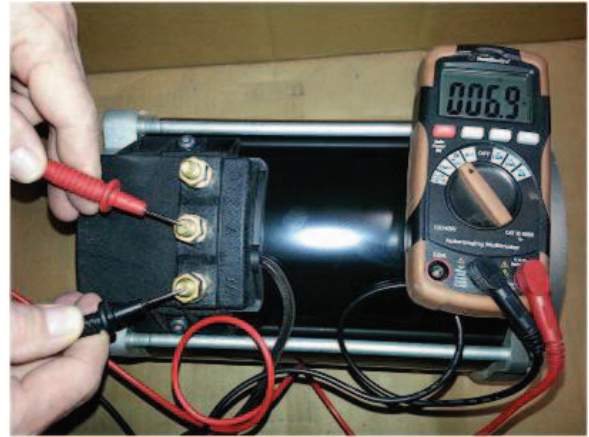

Fig. 22 V and W terminal
2. Now place one meter probe on the V-terminal and the other probe on the W-terminal. Full continuity should be observed (Ref. Fig. 22).